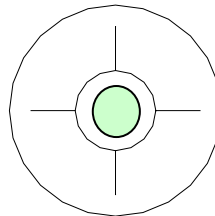

Figure 8-2
- c. Final adjustment is achieved by observing the GREEN light image on the frosted glass target. (Figure 8-2) Then readjust the 4 nuts on the mounting bolts until the projected beam is completely contained within the circular target of the alignment device. The last few adjustments should be by tightening only so that the Retroreflector Assembly is securely fastened to the port.